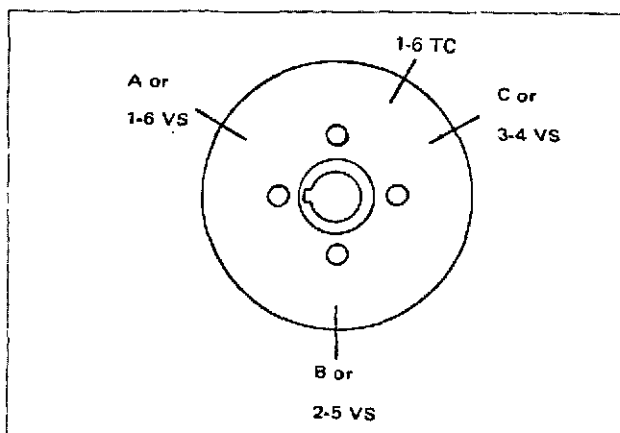

Fig. 2-59 (N114230) Accessory drive pulley marking
1. Bar engine until "A" or 1-6 "VS" mark on pulley, Fig. 2-59, is aligned with pointer on gear case cover. In this position, both valve rocker levers for cylinder No. 5 must